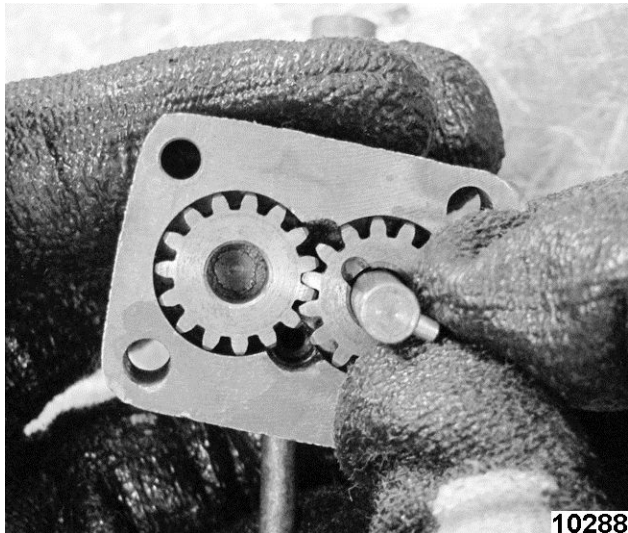

Fig. 33
- Reinstall pin into oil shaft. Pull conveying gear away from housing and tube assembly to seat pin into slotted gear. Fig. 33